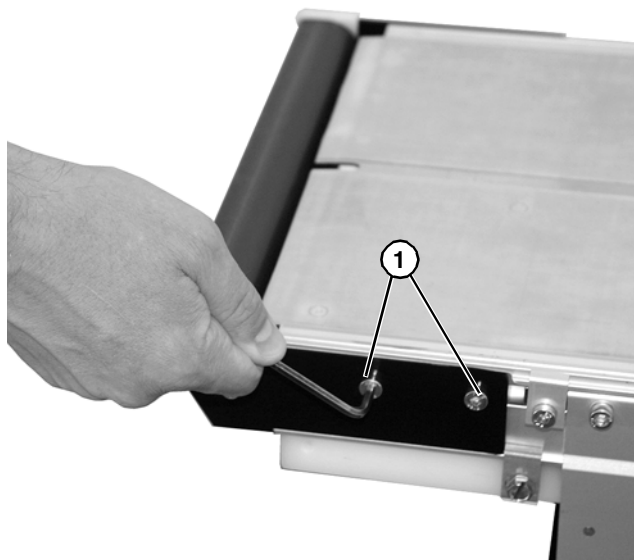

Figure 65
1. On one side of conveyor, remove two (2) fastening screws (Figure 65, item 1).